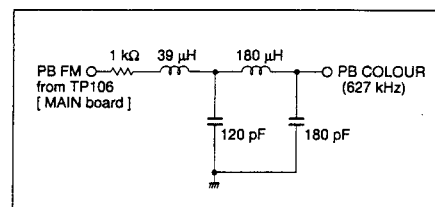
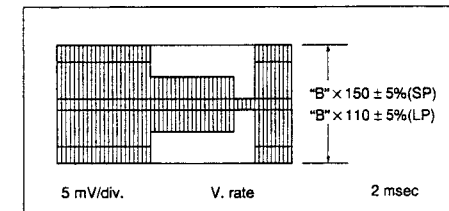

Fig. 3-3-4 LPF
Fig. 3-3-5 REC colour level
- (1) Connect an oscilloscope to PB COLOUR of a LPF(refer to Fig. 3-3-4) and TP111(negative slope) on the MAIN board.
- (2) Playback the SP colour bar signal of MH-2H alignment tape.
- (3) Set the tracking of the Front panel to the Auto tracking off position by simultaneously pressing the TV PROG "+" and "-" buttons.
- (4) Adjust by pressing the TV PROG "+" or "-" buttons of the Front panel for maximum level of the colour waveform and make a note of the higher colour level "B".
- (5) Press the STOP/EJECT button and eject the MH-2H alignment tape.
- (6) Set EVR mode by pressing "K" button of the presetting unit more than 2 seconds.
- (7) Set "A : 2" by pressing 2 digit key of the remote controller.
- (8) Before recording, adjust TV PROG "+" or "-" button of the remote controller so that the higher level channel becomes 150 ± 5% : SP (110 ± 5% : LP) of the note "B" level during playback as shown in Fig. 3-3-5.
- (9) Record a colour bar signal in SP (LP) mode, and playback recorded colour bar signal.
- (10) Set normal VCR mode by pressing "K" button again so adjustment data is memorized.